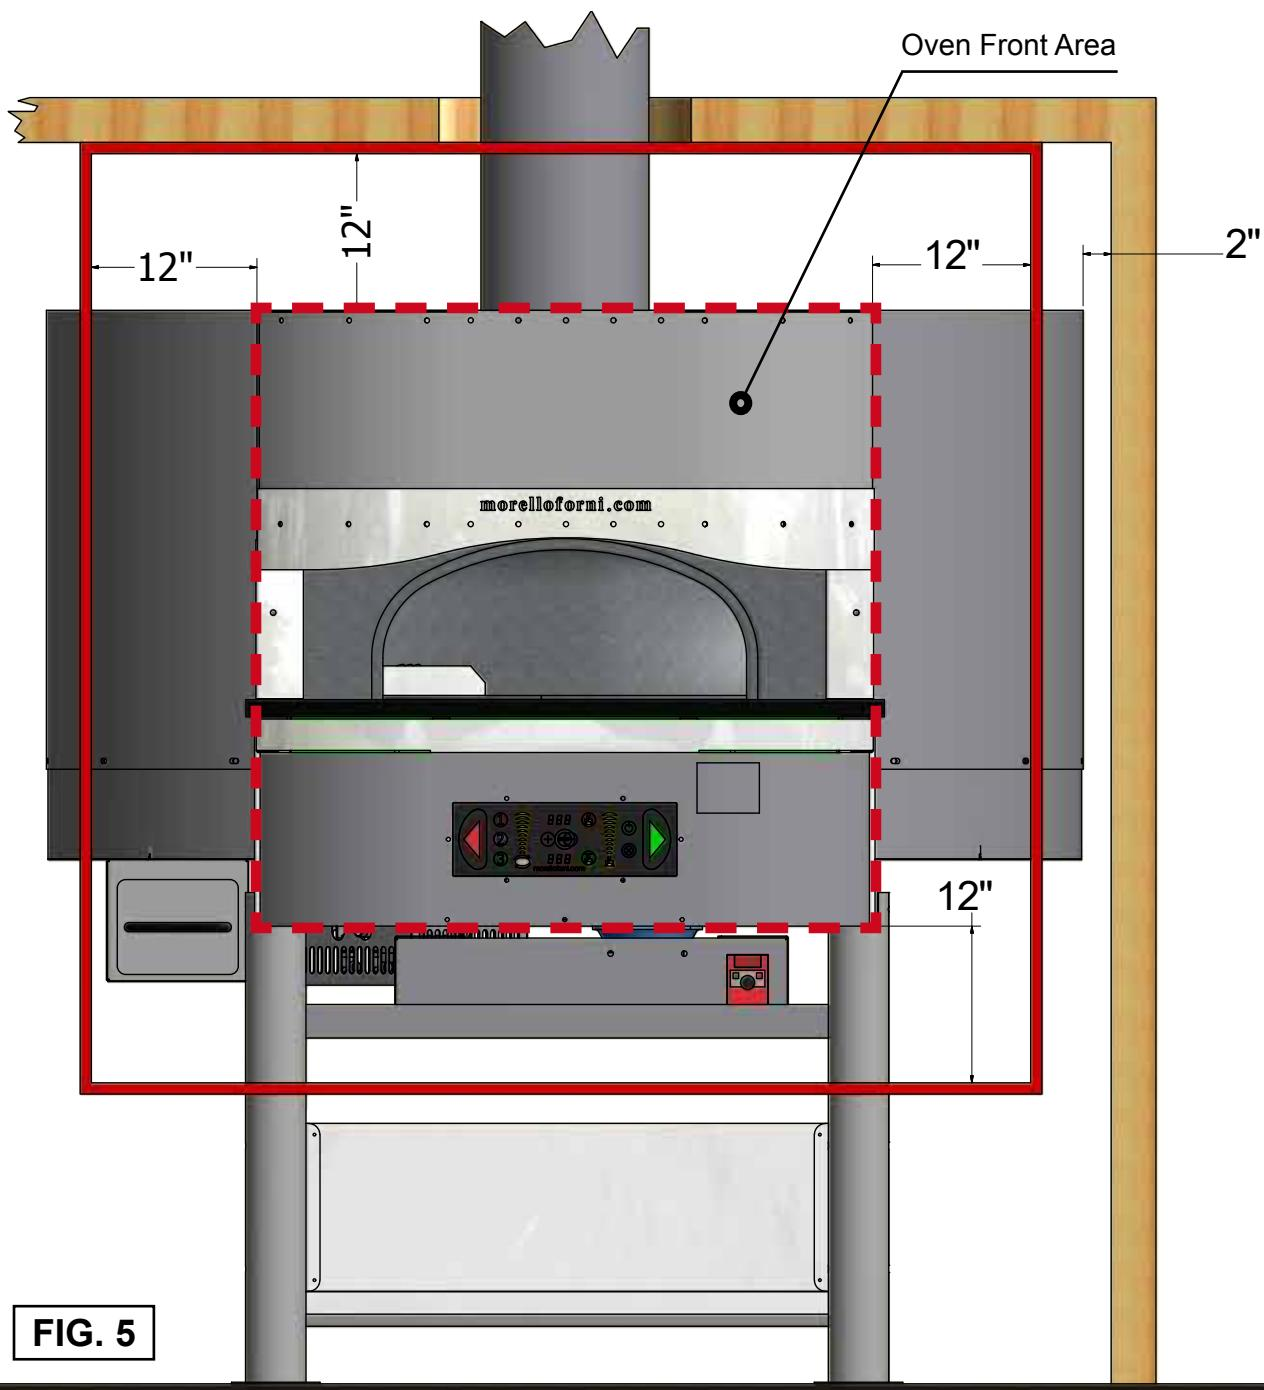

FIG. 5
- The oven, except the front part can be coated with several materials, the control case area must be left free, as shown in the layout below and (FIG. 5).
- Above the oven and around the Oven Front Area the integral clearance must be of 12 inches as showed (FIG. 5)